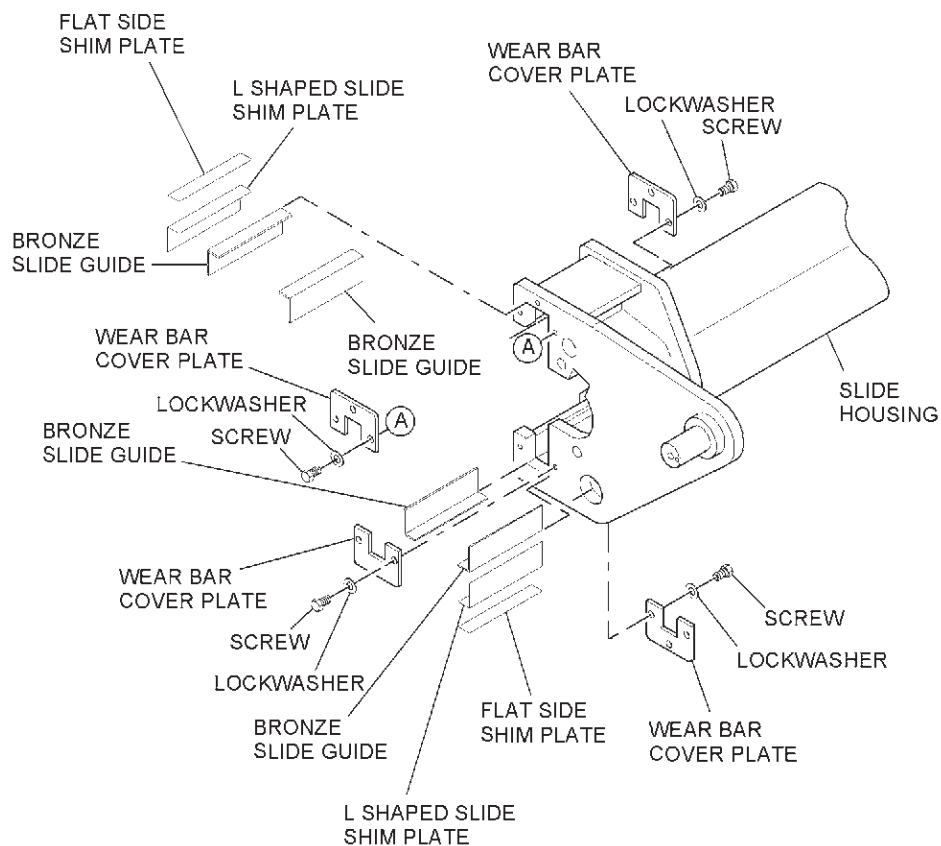

Figure 7-11. Blade Shift Guides
2. Remove wear bar cover plate, Figure 7-11, and replace shims as needed.